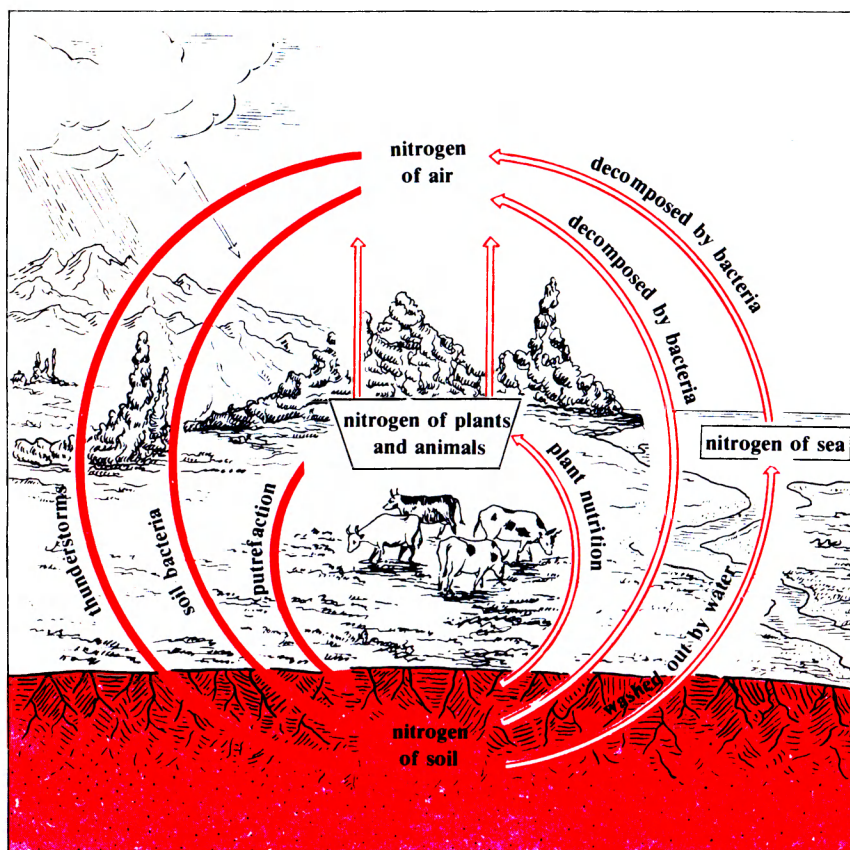

Fig. 2.10 Nitrogen cycle
The extraction of combined nitrogen from the soil is thus compensated for by the natural processes which replenish the store of fixed nitrogen. The cycle of nitrogen in nature is thus completed (Fig. 2.10).
4. Fig. 2.10 shows the nitrogen cycle in more detail than is given in the text. What new processes have been added to the nitrogen cycle in the figure?